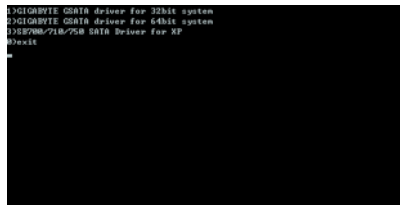
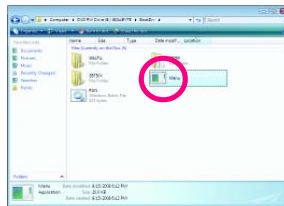

Figure 2
Figure 3
Step 2: When the controller menu (Figure 2) appears, remove the startup disk and insert the blank formatted disk. Select the controller driver by pressing the corresponding letter from the menu. For example, from the menu in Figure 2, to install Windows to your RAID/AHCI hard drives, select **(3) SB700/710/750 SATA Driver for XP** for the AMD SB700 SATA controller. Your system will then automatically zip and transfer this driver file to the floppy disk. Press <0> to exit when finished.
Use an alternative system and insert the motherboard driver disk. From your optical drive folder, double click the **MENU.exe** file in the **BootDrv** folder (Figure 3). A command prompt window will open similar to that in Figure 2.